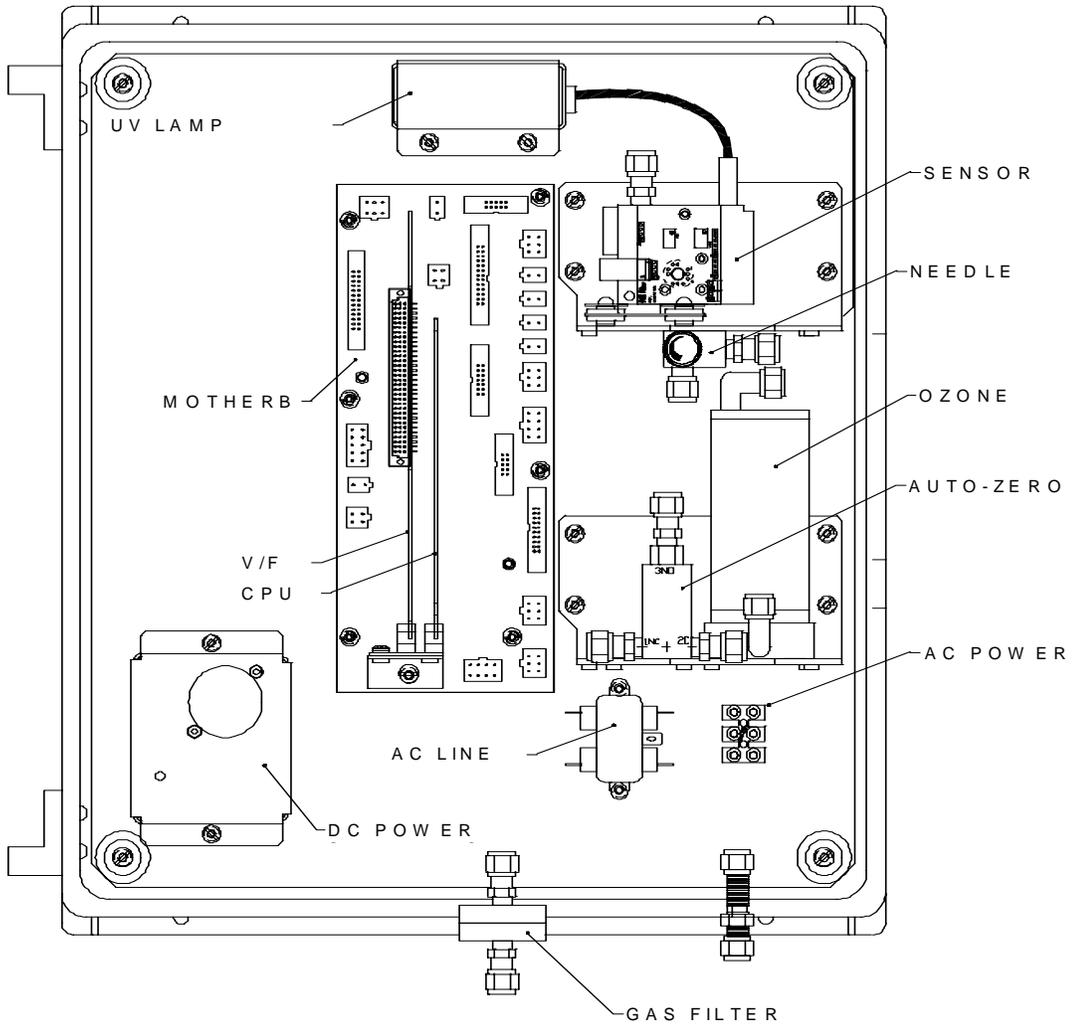

FIGURE 1.6 – NEMA4X ASSEMBLY LAYOUT
3. Sample Flow - Adjust to 0.5-2.0 L/min using needle valve (See Figure 1.6)